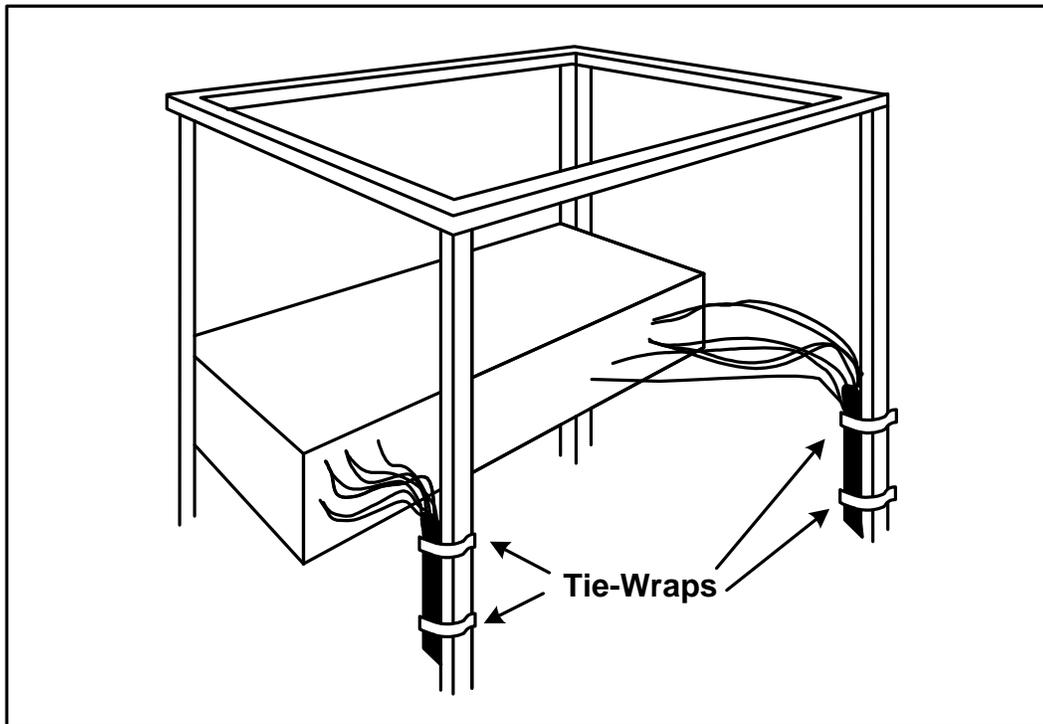

Figure 3 Cabling
2. Provide proper support for each cable during the cabling process. The use of tie-wraps is recommended, as shown in Figure 3.